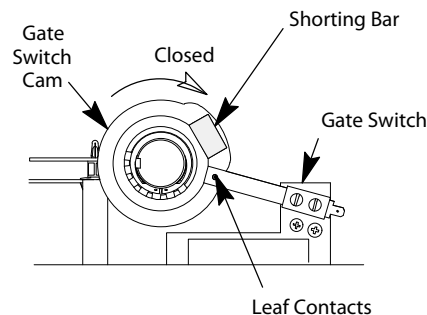

Figure 15 - Gate Switch
2. Rotate the disk in the CLOSE direction until the shorting bar just touches the two leaf contacts. See Figure 15.